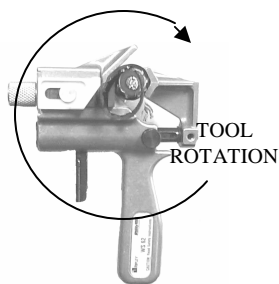

Fig. 7
Step 3. (Fig. 7) Begin jacket stripping by applying a slight downward pressure while rotating the tool around the cable in a clockwise direction. *If the blade slips out of position during jacket removal, do not attempt to restart stripping process. Cut the cable using a curved cable cutter or hacksaw and start over.*